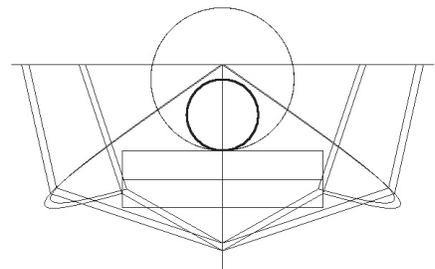

Fig. 14
Step 9. Key-in 1.5, 1.15 and press ENTER, **Fig. 14**.